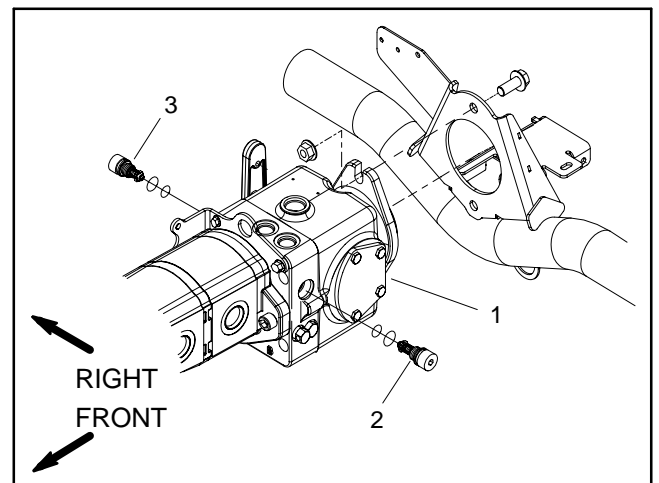

Figure 35
10. If problem occurs in one direction only, interchange the relief valves in the traction pump (Fig. 35) to see if the problem changes to the other direction. Clean or replace valves as necessary. These cartridge type valves are factory set, and are not adjustable. If pressure is incorrect and relief valves are in good condition, traction pump and/or wheel motors should be suspected of wear and inefficiency.